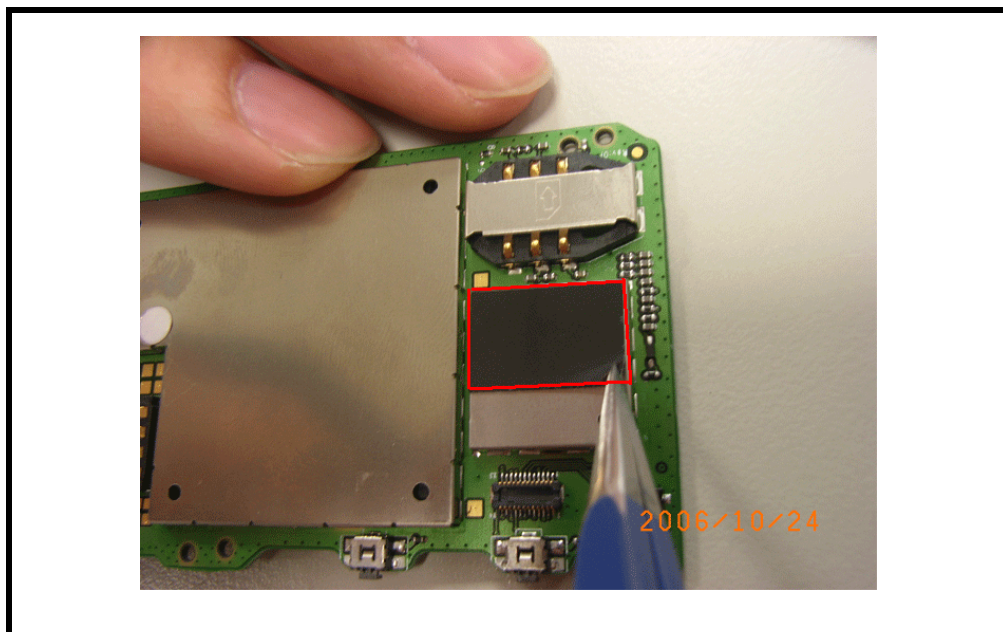

Figure 45.
3.2 Stick the black mylar(P/N:3064H80001W) on the surface of shielding case as the figure 45.